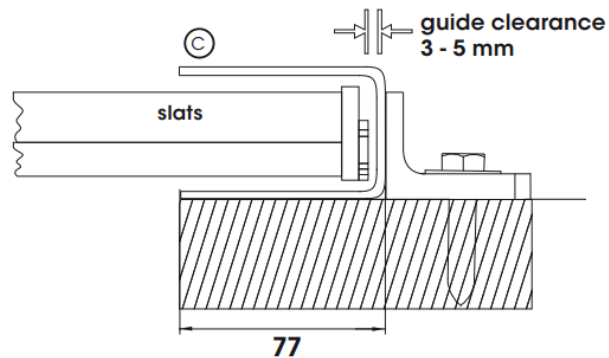
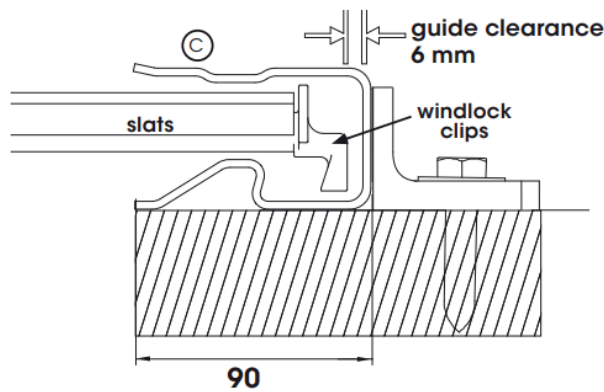

Fig: 2.5.1 (standard guide)
Fig: 2.5.2 (windlock guide)
a) Position guides **C** true and plumb at each side of the opening. Allow 3-5 mm of working clearance between the shutter and the inside of each guide as per Fig 2.5.1. For Windlock setup refer to Fig 2.5.2.